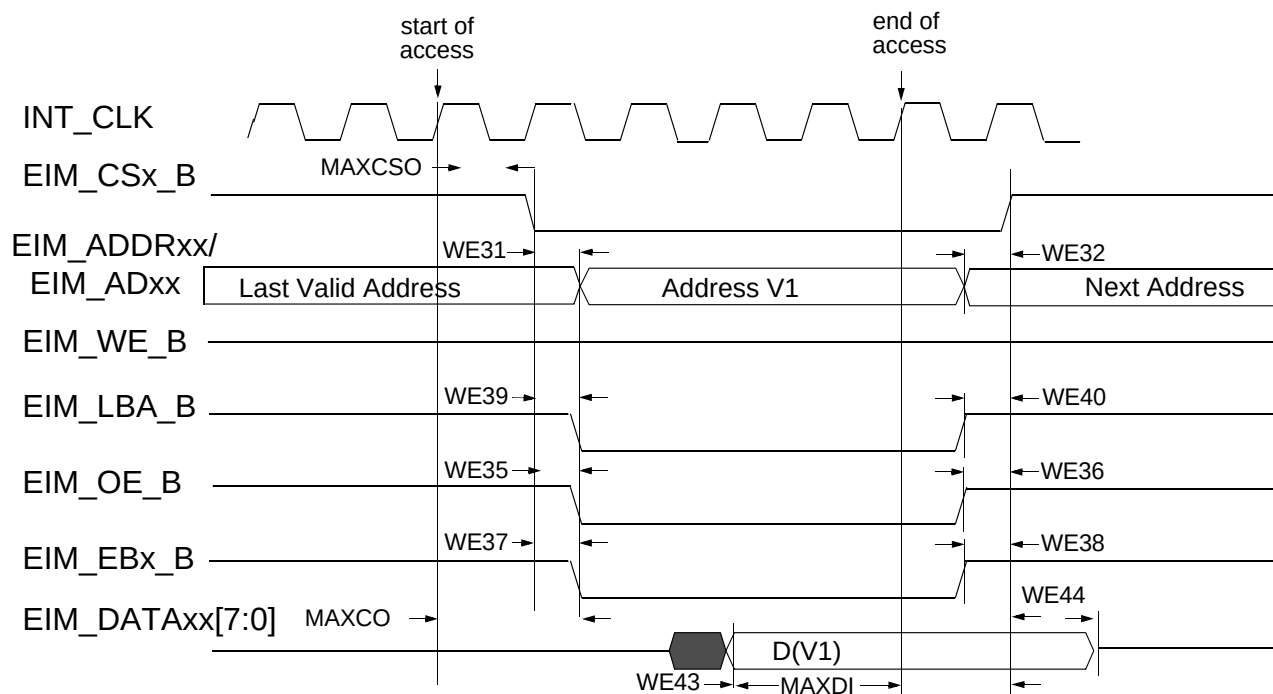

Figure 19. Asynchronous Memory Read Access (RWSC = 5)
Figure 19 through Figure 23, and Table 42 help you determine timing parameters relative to the chip select (CS) state for asynchronous and DTACK EIM accesses with corresponding EIM bit fields and the timing parameters mentioned above.
Asynchronous read & write access length in cycles may vary from what is shown in Figure 19 through Figure 22 as RWSC, OEN and CSN is configured differently. See the *i.MX 6Solo/6DualLite Reference Manual (IMX6SDLRM)* for the EIM programming model.